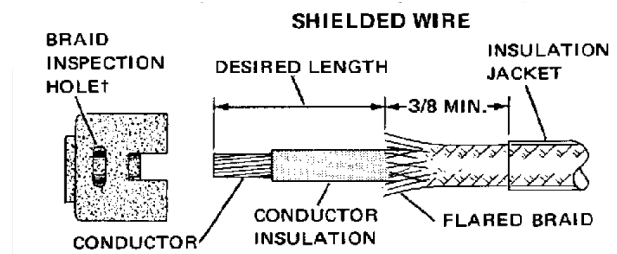

Figure 7
1. Strip shielded wire as shown in Figure 7.